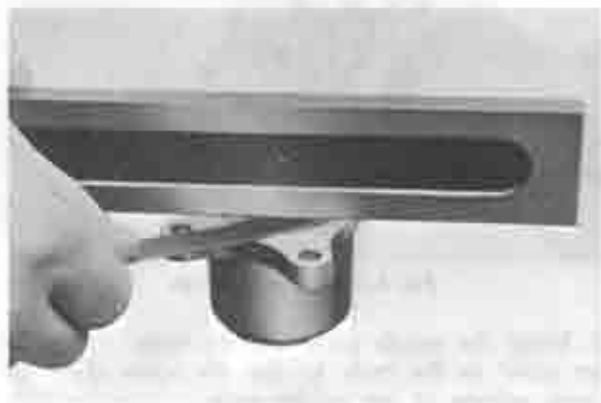

Fig. 2-11 Checking end float
3. Check the end float of the rotors. Place a straight edge across the pump body and measure the clearance between the rotor and the straight edge with a feeler gauge, as shown in Fig. 2-11.